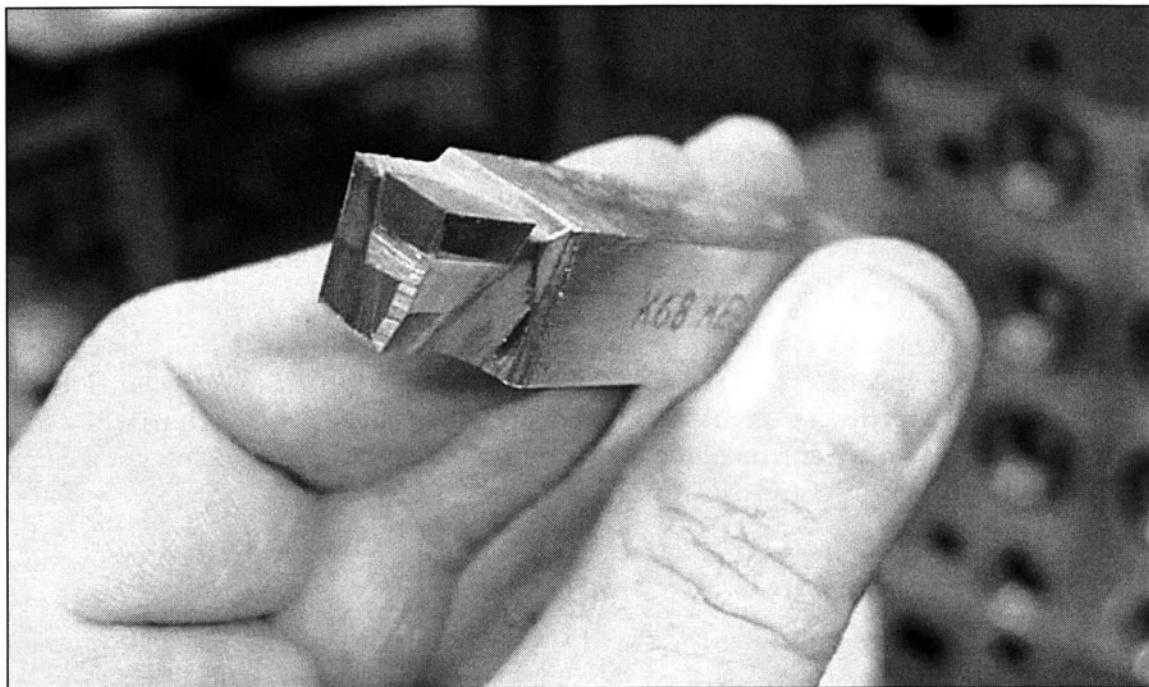

FIGURE 5-4 The base metal of a brazed carbide tool should always be ground away with a snag grinder before grinding the carbide with a fine diamond grinder.
10. *Clear the base metal of a brazed carbide tool before using a diamond grinding wheel to sharpen the carbide. (See Fig. 5-4)*